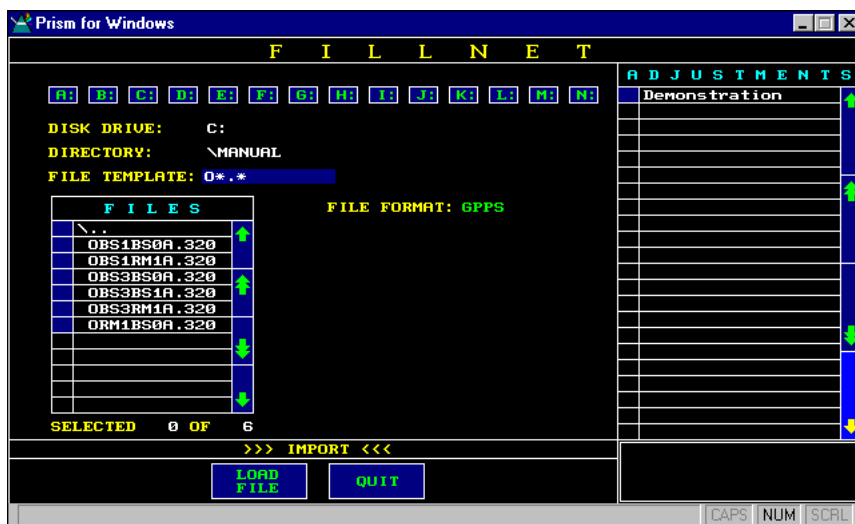

Figure 3.4: IMPORT Menu
5. On the **MAIN MENU**, click on **IMPORT**. The **IMPORT** menu, Figure 3.4, will appear. The word **DEMONSTRATION** will be in the **ADJUSTMENTS** area on the right side of the display. There will be a list of the sample O-files in the **FILES** area at the left side of the display; these files will be used to do the adjustment.